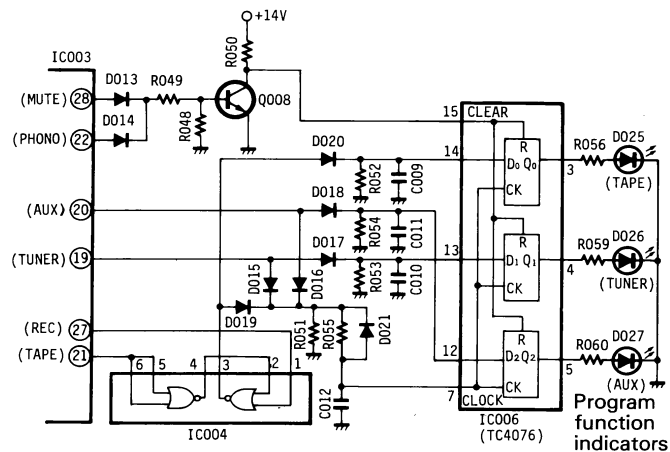

Fig. 10
In Fig.10 IC006 (TC4076) functions in accordance with the truth value table of Table 4. While CLEAR pin ⑮ is high or , in other words, when both IC003 MUTE pin ㉔ and PHONO pin ㉒ are low, IC006 output pins ③ ~ ⑤ are set low and the program function indicators go off.